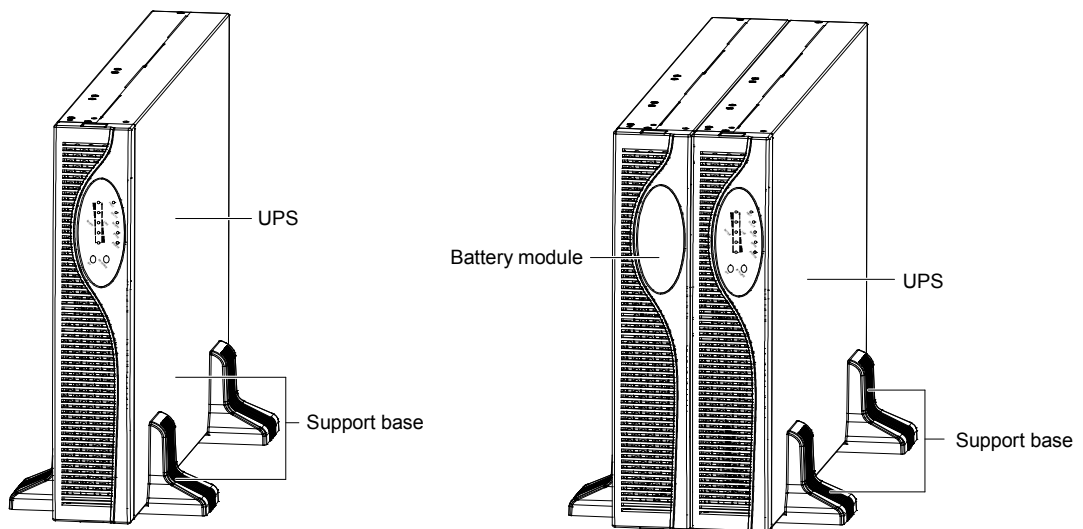

Figure 2-3 Tower installation
3. Place the UPS on the support bases. Each UPS needs four support bases to install, as shown in Figure 2-3.